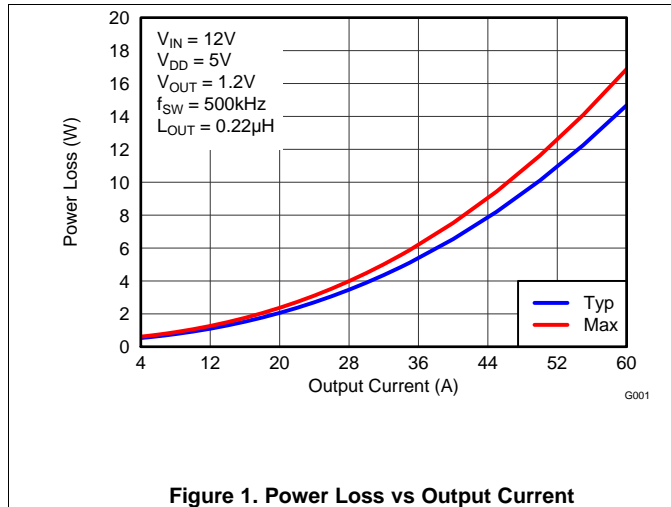

Figure 1. Power Loss vs Output Current
MOSFET centric parameters such as $R_{DS(ON)}$ and Q_{gd} are primarily needed by engineers to estimate the loss generated by the devices. In an effort to simplify the design process for engineers, Texas Instruments has provided measured power loss performance curves. Figure 1 plots the power loss of the CSD95372AQ5M as a function of load current. This curve is measured by configuring and running the CSD95372AQ5M as it would be in the final application (see Application Schematic). The measured power loss is the CSD95372AQ5M device power loss which consists of both input conversion loss and gate drive loss. Equation 1 is used to generate the power loss curve.
The power loss curve in Figure 1 is measured at the maximum recommended junction temperature of $T_j = 125^\circ\text{C}$ under isothermal test conditions.
- Typical Power Loss at 40 A = 6.5 W (Figure 1)